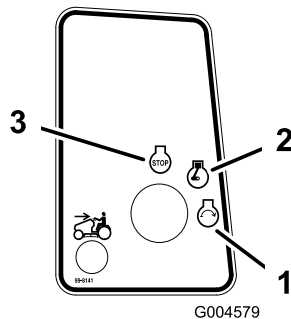

Figure 14
6. Turn the ignition key clockwise and hold it in the Start position (Figure 14). When the engine starts, release the key.
2. Turn the ignition key to Off (Figure 14).